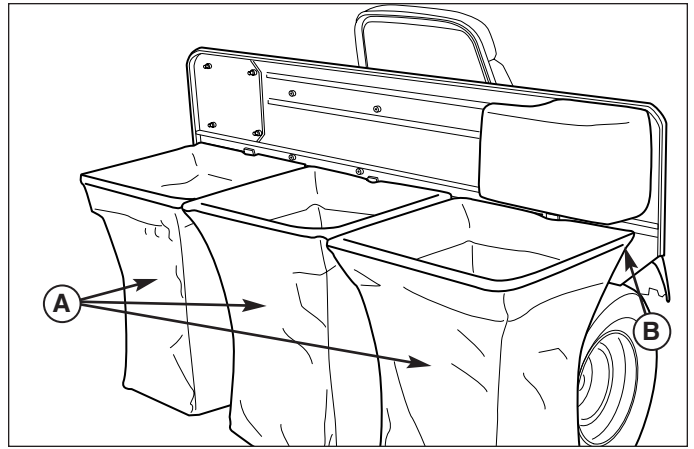

Figure 6. Bags
3. Hook the bags (A, Figure 6) on the back plate (B).